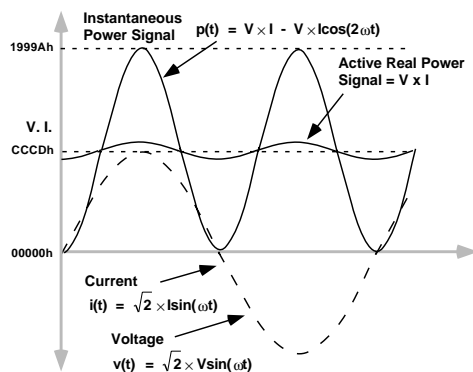
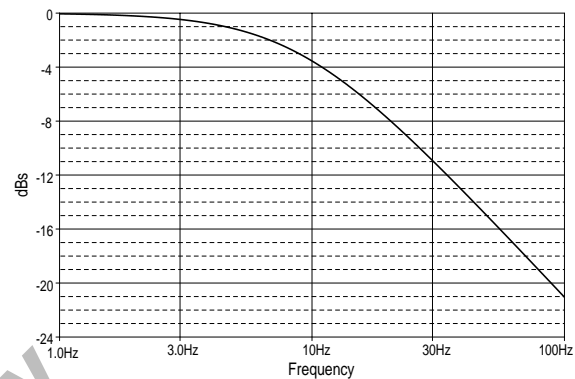

Figure 28– Active Power Calculation
Figure 29—Frequency Response of LPF2
$P$  is referred to as the Active or Real Power. Note that the active power is equal to the dc component of the instantaneous power signal  $p(t)$  in Equation 3, i.e.,  $VI$ . This is the relationship used to calculate active power in the AD7756. The instantaneous power signal  $p(t)$  is generated by multiplying the current and voltage signals. The dc component of the instantaneous power signal is then extracted by LPF2 (Low Pass Filter) to obtain the active power information. This process is illustrated graphically in Figure 28. Since LPF2 does not have an ideal “brick wall” frequency response—see Figure 29, the Active Power signal will have some ripple due to the instantaneous power signal. This ripple is sinusoidal and has a frequency equal to twice the line frequency. Since the ripple is sinusoidal in nature it will be removed when the Active Power signal is integrated to calculate Energy – see *Energy Calculation*.
As mentioned in the last section, the discrete time sample period (T) for the accumulation register is 1.1μs (4/CLKIN). With full-scale sinusoidal signals on the analog inputs and the Active Power Gain register set to 000h, the average word value from LPF2 is CCCDh - see figures 28 and 31. The maximum value which can be stored in the Active Energy register before it over flows is 239 or 7F,FFFF,FFFFh. Therefore the integration time under these conditions is calculated as follows: